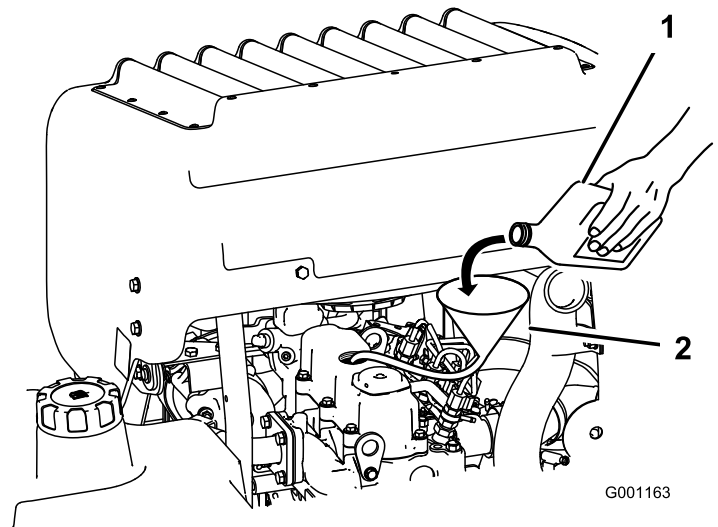

Figure 63
3. Use a hose and funnel to add oil to the engine (Figure 63).